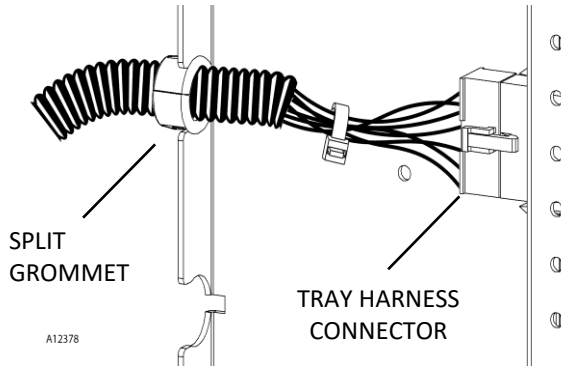

Fig. 12a
1. Disconnect the tray harness on the right-side wall and release the split grommet from the holder plate – Fig. 12a
- Re-engage the harness split bushing into the harness retainer wall - Fig 12a
- Disconnect the tray harness from the right-side wall - Fig 12a.
2. Disconnect the tray harness from the right-side wall – Fig. 12a